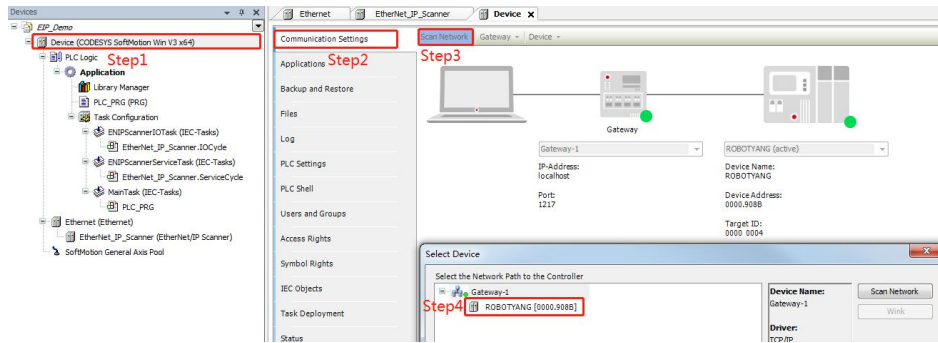
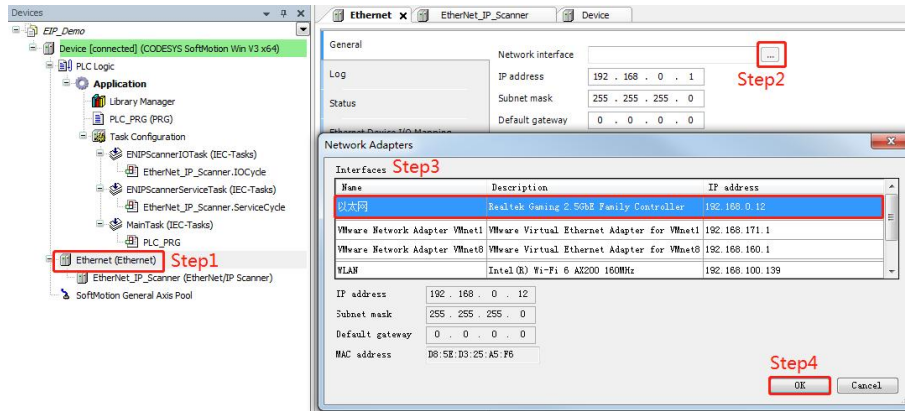

Figure 5-4-8
Figure 5-4-9
- As shown in Figure 5-4-8 and Figure 5-4-9, select the network port and use the same network segment as the EIP slave.